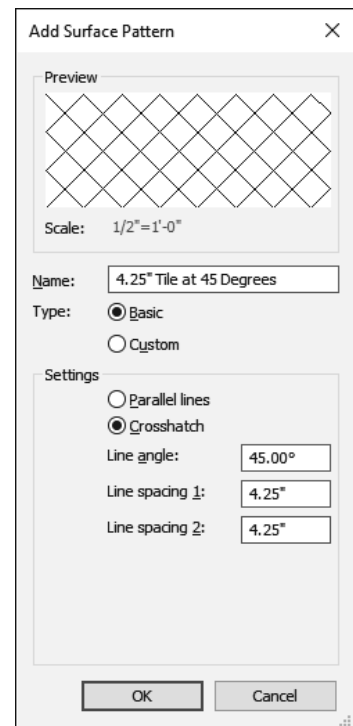

FIGURE 4-4.10
36. Adjust the settings to match Figure 4-4.10; enter the *Name* **4.25" Tile at 45 Degrees**.